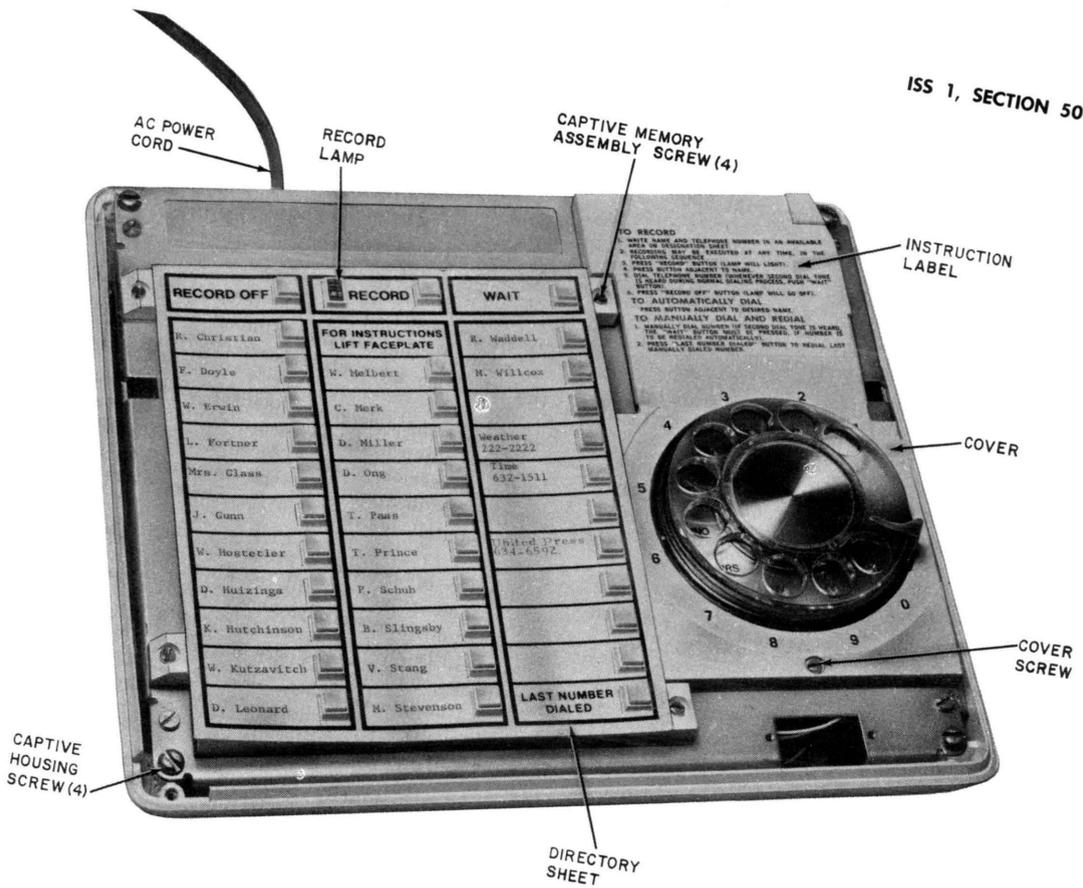

Fig. 2—870B1M Dial, Faceplate Removed
2.06 Operating Features (Fig. 2):
Note: Instruction label on manufactured product will appear different from that shown in Fig. 2
3.05 Directory sheets (Fig. 2) are held in place by the faceplate. Additional sheets are available in directory sheet set, 840393672.
- (1) Disconnect power unit from AC outlet.
- (2) Remove the faceplate (3.10).
- (3) Loosen the captive cover screw at the bottom of the cover around the dial (Fig. 2).
- (4) Remove the cover.
- (5) Remove the two dial mounting screws.
- (6) On the 870B1M dial, place the rotory dial aside to gain access to some of the PSB terminals. On the 2870B1M dial, carefully
- (1) Disconnect the power unit from AC outlet.
- (3) Remove mounting and interface cords from their respective jacks in the adjunct dial.
- (4) Disengage only the captive housing screws (Fig. 2) one located in each of the four corners of the chassis.
- (5) Separate the housing from the adjunct dial base while feeding the AC power cord through hole in bottom of housing.
- (6) Before replacing the housing, lift the adjunct dial to check that the shoulders of the battery jack are against the two tabs of the chassis. Misalignment may cause the bottom of the housing to bow.